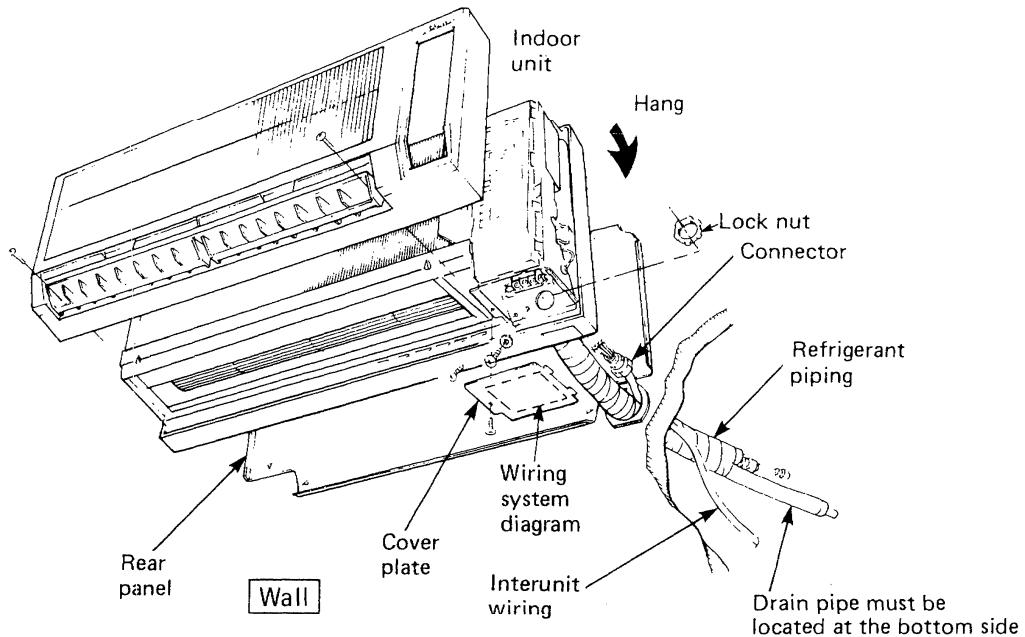

Fig. 16
- d) Hang the indoor unit on the rear panel. Fig. 16 (next page)